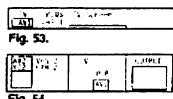

Fig. 53.
- 3 Select TV Screen (input source for the TV screen), PIP (input source for the PIP screen), or output (output source) with Δ + or ∇ - and press OK. One of the source items changes colour. (See Fig. 53)